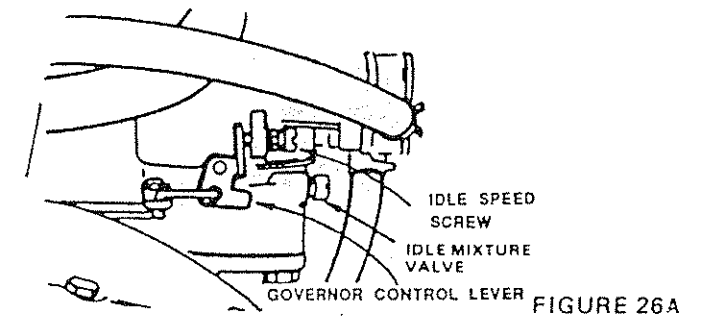

FIGURE 26A
- Hold governor control lever against idle Adjusting Screw and adjust idle speed screw to obtain 1200 to 1400 rpm. (Fig. 26A).